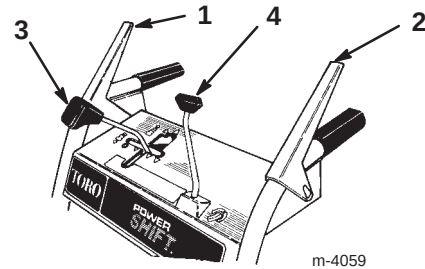

Figure 13
- **Auger/Impeller Drive Control Lever** (Fig. 13)—To engage both the auger and impeller, press the lever against the right handgrip. To disengage, release the lever.
- **Traction Control Lever** (Fig. 13)—To engage the traction (wheel drive), press the lever against the left handgrip. To stop the traction, release the lever.
- **Speed Shift Control** (Fig. 13)—This control has a neutral position, 4 forward speeds, and 2 reverse speeds. It also controls the power shifting of the wheels. To select a speed, move the shift control to the desired position.
- **Discharge Chute Control** (Fig. 13)—Rotate the discharge chute control clockwise to move the discharge chute to the right; counterclockwise to move the chute to the left.
3. Release the auger/impeller drive control lever and the traction control lever (Fig. 13).